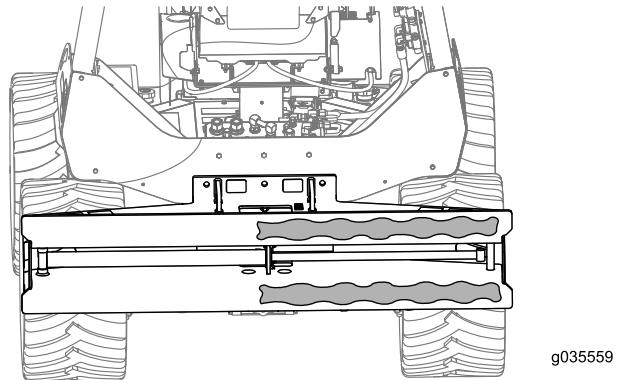

Figure 2
5. Spread some grease on the right side of the attachment frame as shown in Figure 2.
14. Place 4 bolts (3/4 x 3 1/2 inch) and 4 washers through the trencher attachment onto the slide mount and secure with 4 washers and 4 locknuts (Box B of Figure 2).